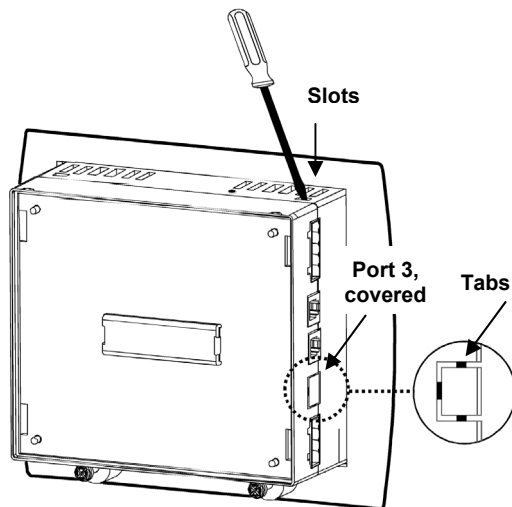

Figure 2. Opening the Controller
4. The port's location, COM 3, is covered by plastic. Remove the plastic covering using a razor cutter to cut through the tabs shown in Figure 2.